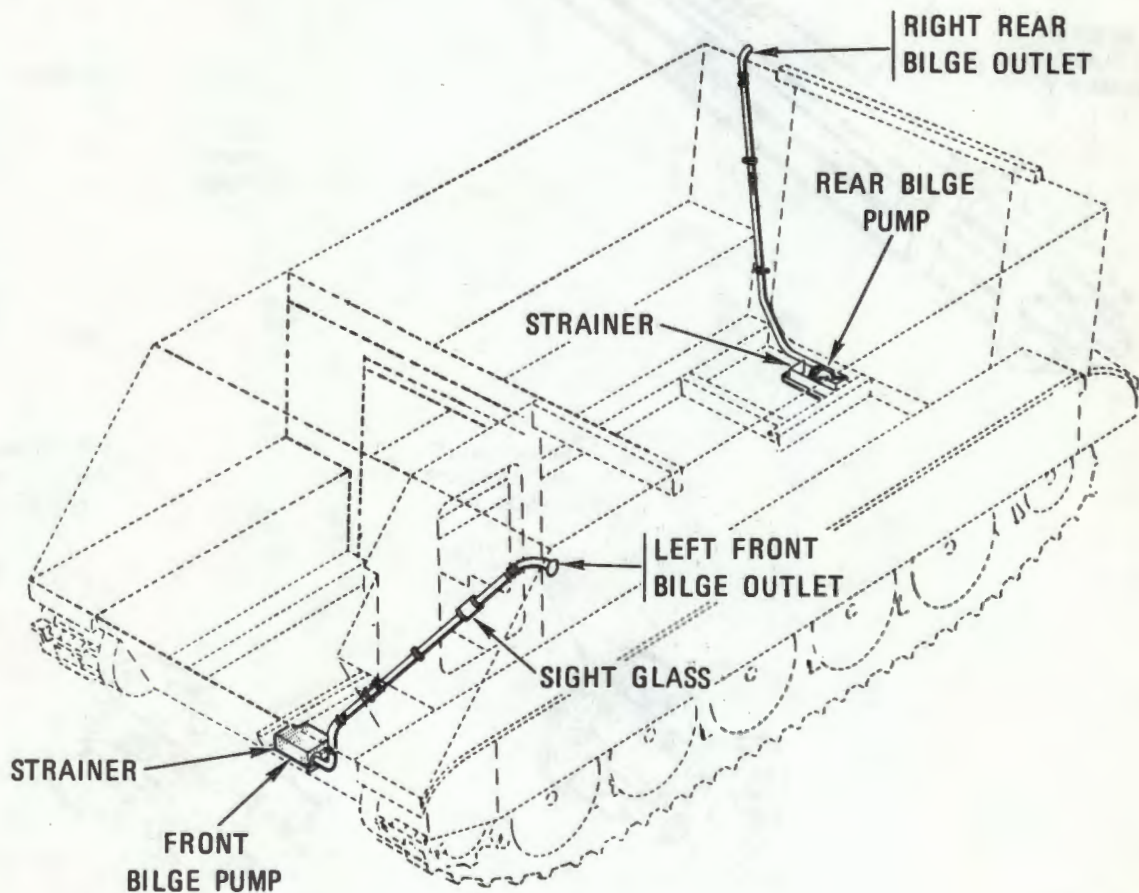

Figure 1-9. Bilge pumps.
(9) *Bilge pumps.* Two bilge pumps (fig 1-9) mounted on the hull bottom below floor level, remove accumulated water from the chassis. The rotor-type pumps are electrically operated and controlled by a single switch on the instrument panel. The pump discharge outlets are located at the top of the hull, one at the left front and the other at the right rear. Pump intakes are covered with metal strainers to prevent pump damage.